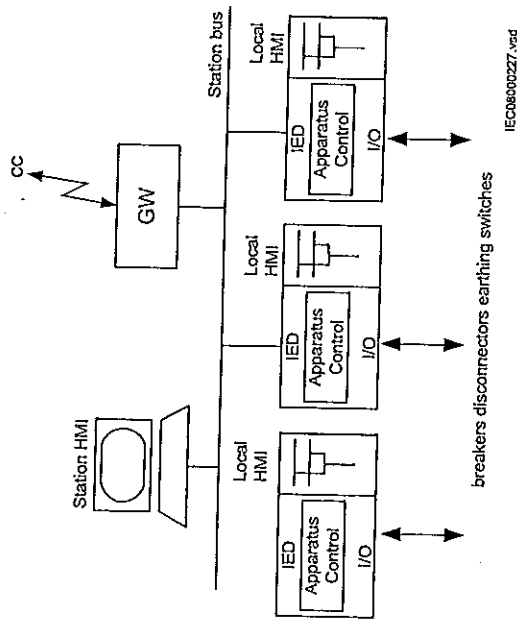

Figure 80: Overview of the apparatus control functions
Figure 80 gives an overview from what places the apparatus control function receive commands. Commands to an apparatus can be initiated from the Control Centre (CC), the station HMI or the local HMI on the IED front.